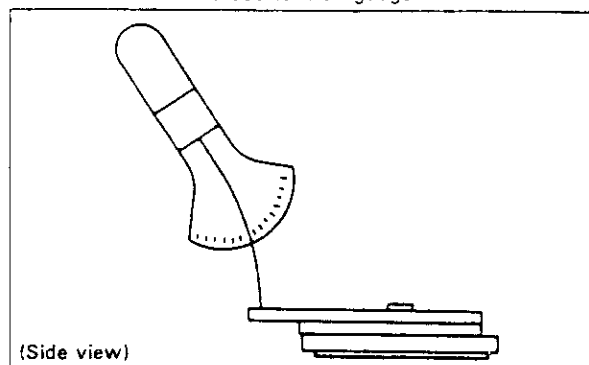

Figure 1-10.
2. Place the reel idler in its center position as shown in Fig. 1-10.
3. Using a tension gauge, push the reel idler in the direction of arrow → ① so that the reel idler moves away from the relay idler.
4. Release the pressure gradually in the direction of arrow → ②, so that the reel idler touches the relay idler again. Check that the reading of the tension gauge is within 105 to 145 g.cm.